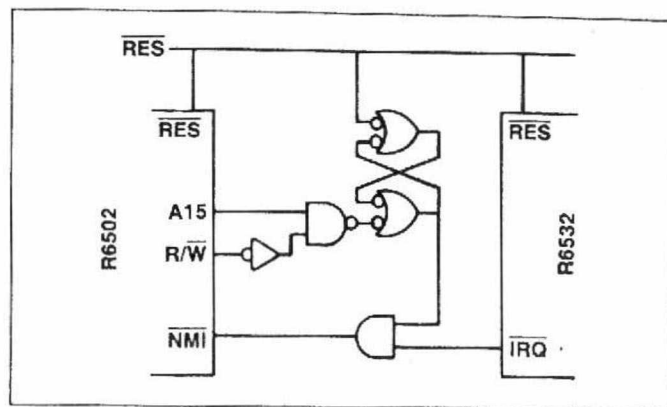

Figure 2. Scheme for Gating to the NMI Input
3. Gate the R6532 $\overline{\text{IRQ}}$ output to the R6502 $\overline{\text{NMI}}$ input with a circuit which is enabled by the initialization routine of the processor. Figure 2 shows a possible configuration, with the gate enabled only when the processor does a write operation with A15 high. Note that this scheme essentially allows disabling of the NMI in the R6502.